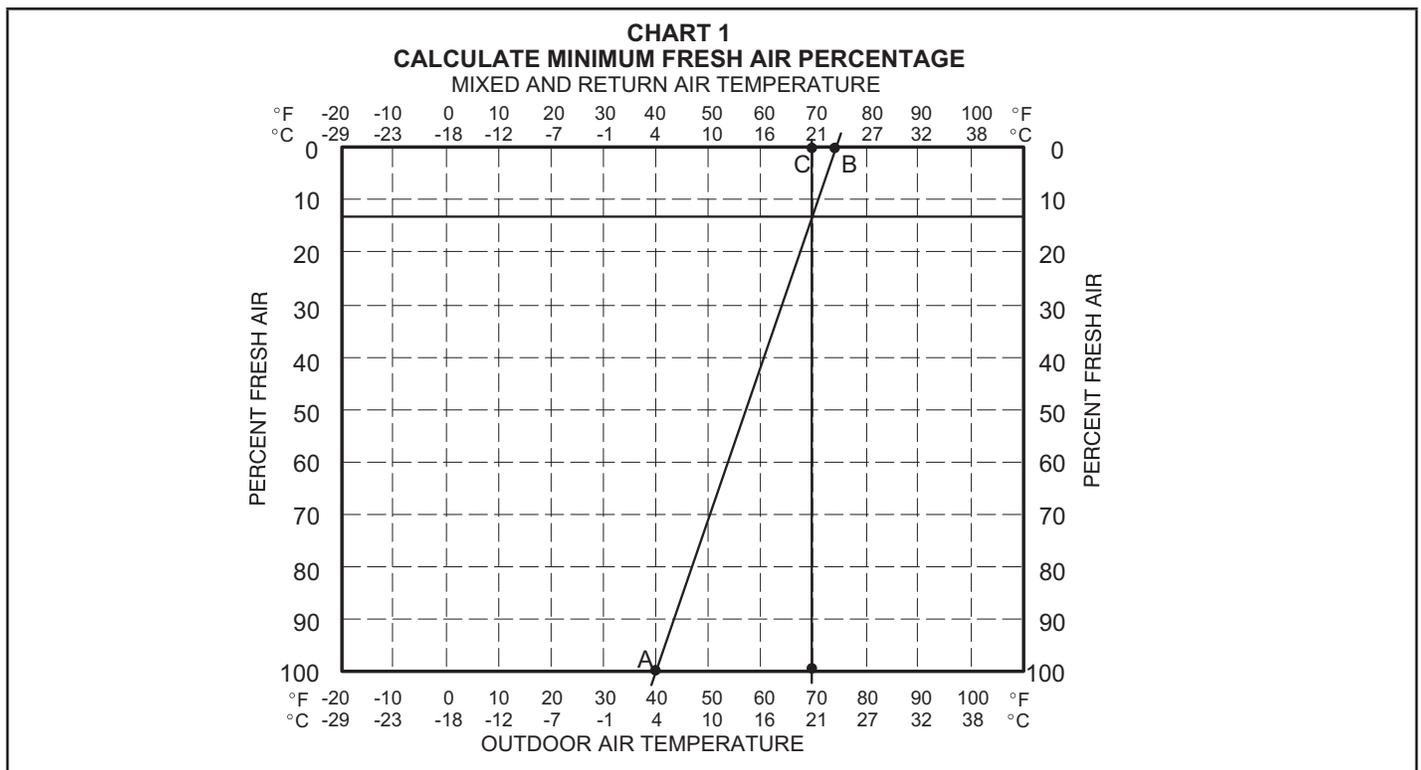

FIGURE 34
- 4 - Measure return air temperature. Mark that point on the top line of chart 1 FIGURE 34 and label the point “B” (74F, 23C shown).